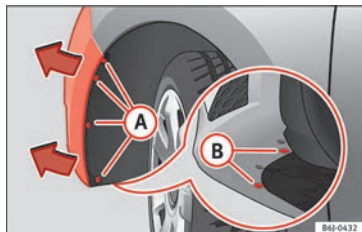

Fig. 106 Fog light: access to the connector and to the light bulb holder.
- Remove the 4 bolts A » Fig. 106 from the inside of the wheel housing and the 2 bottom bolts B » Fig. 106 from the bumper with a screwdriver.